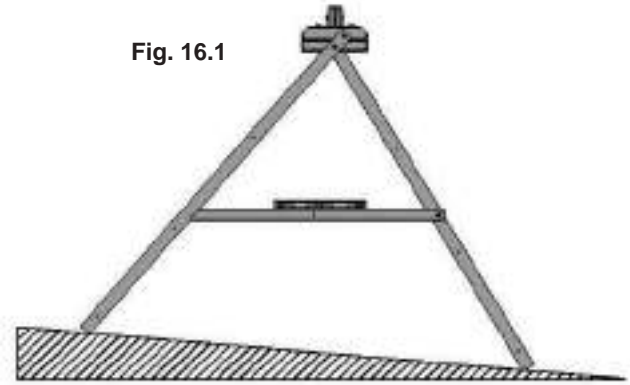

Fig. 16.1
**A:** To adjust for uneven ground, raise or lower the (160) Support Cross on the (152) SW Post. Make sure the Support Cross is level prior to attaching with the lag screws. (fig. 16.1 and 16.2)